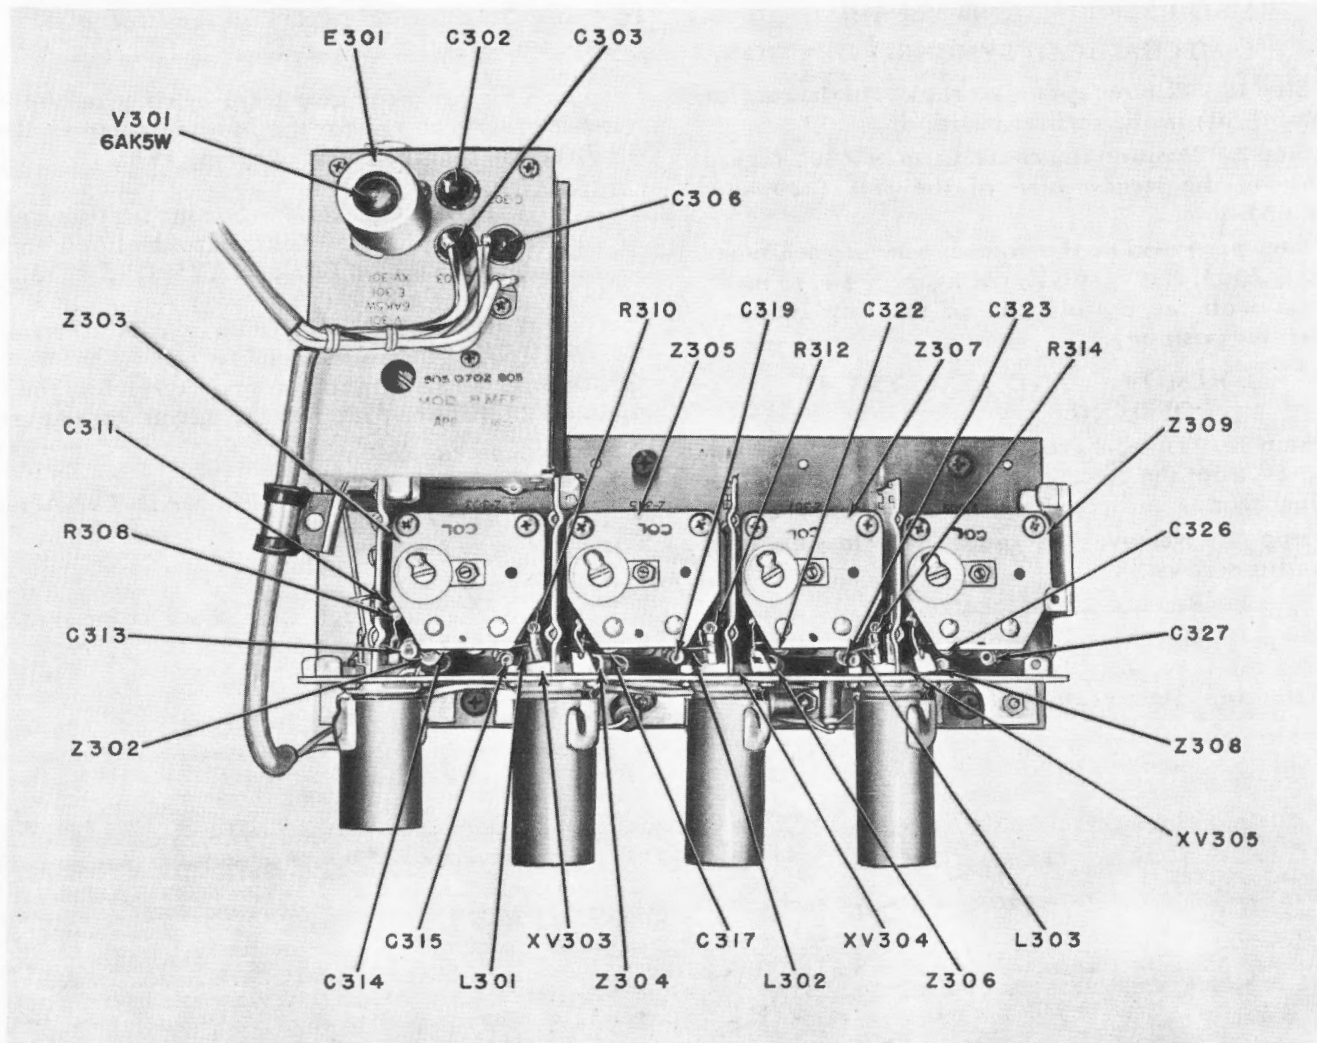

Figure 6-34. Radio Receiver R-278B/GR, Frequency Multiplier-Amplifier, Top View
Figures 6-34 through 6-36 show component callouts. Figure 6-82 shows the schematic diagram and figure 6-90 is the practical wiring diagram.
Step 8. Remove solder connection C327 (figure 6-34) from pin 2 of V401 (figure 6-7).
Step 3. Position the contact arm of each tuner (Z303, Z305, Z307, and Z309, figure 6-34) to make contact with the bottom end of the ring inductor (220.0-mc position).
Step 8. Unsolder C117 (figure 6-27) from pin 1 of V401, and C327 (figure 6-34) from pin 2 of V401.